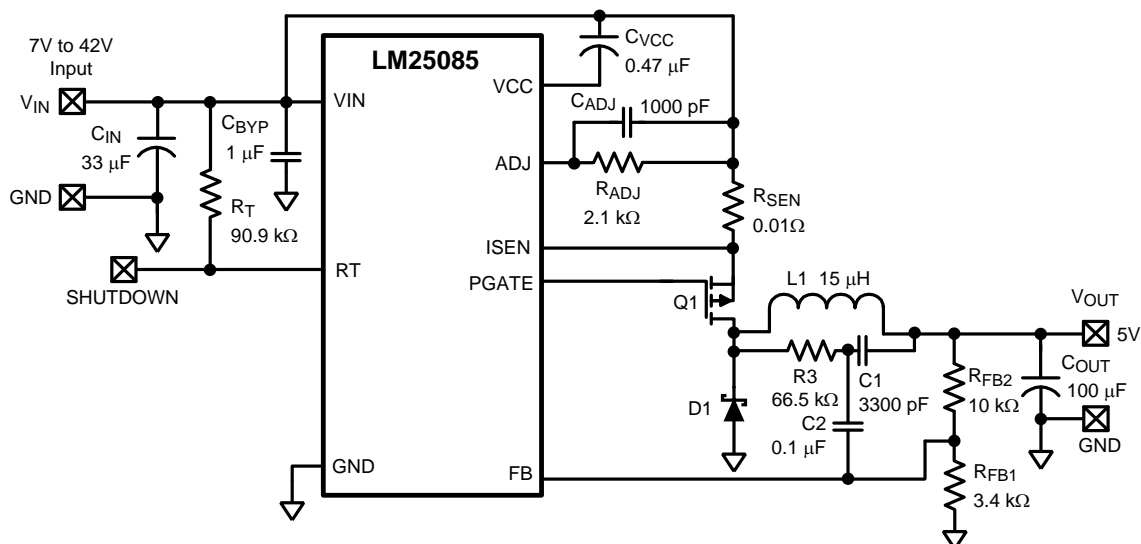
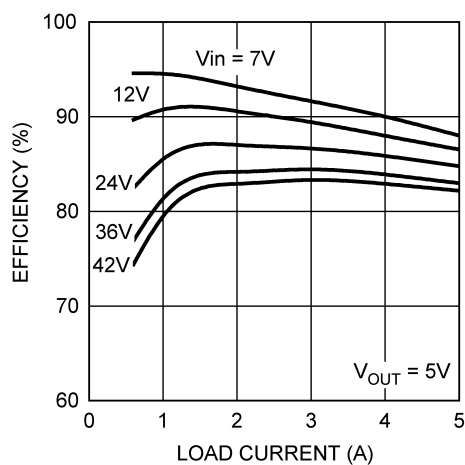
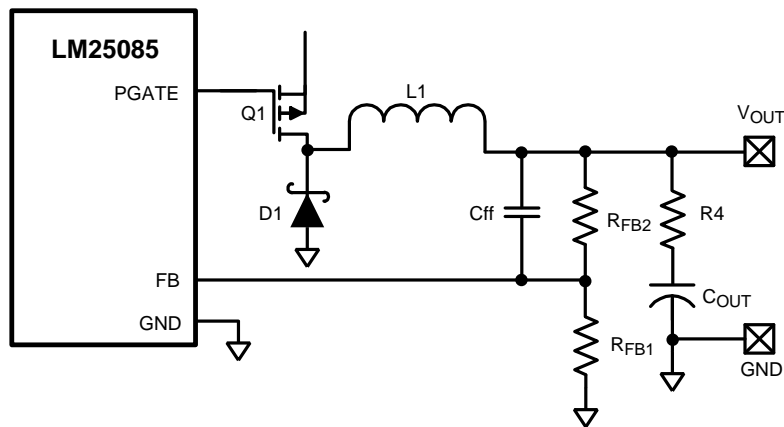
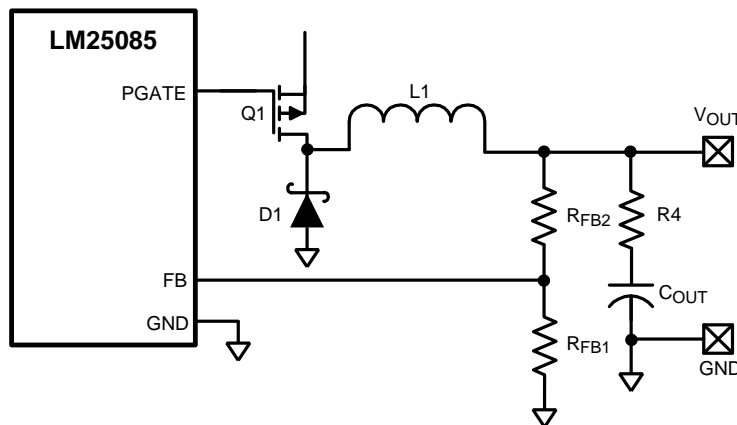

Figure 28. Example Circuit
Figure 29. Efficiency vs. Load Current and  $V_{IN}$  (Circuit of Figure 28)
Figure 33. Reduced Ripple Configuration
Figure 34. Lowest Cost Ripple Generating Configuration
The final circuit is shown in Figure 28, and its performance is presented in Figure 29 through Figure 32.
The minimum ripple configuration, using C1, C2 and R3, used in the example circuit, Figure 28, results in a low ripple amplitude at  $V_{OUT}$  determined mainly by the characteristics of the output capacitor and the ripple current in L1. This configuration allows multiple ceramic capacitors to be used for  $V_{OUT}$  if the output voltage is provided to several places on the PC board. However, if a slightly higher level of ripple at  $V_{OUT}$  is acceptable in the application, and distributed capacitance is not used, the ripple required for the FB comparator pin can be generated with fewer external components using the circuits shown below.
**Reduced ripple configuration:** In Figure 33, R3, C1 and C2 are removed (compared to Figure 28). A low value resistor (R4) is added in series with  $C_{OUT}$ , and a capacitor (Cff) is added across  $R_{FB2}$ . Ripple is generated at  $V_{OUT}$  by the inductor's ripple current flowing through R4, and that ripple voltage is passed to the FB pin via Cff. The ripple at  $V_{OUT}$  can be set as low as 25mVp-p since it is not attenuated by  $R_{FB2}$  and  $R_{FB1}$ . The minimum value for R4 is calculated from:
**Lowest cost configuration:** This configuration, shown in Figure 34, is the same as Figure 33 except Cff is removed. Since the ripple voltage at VOUT is attenuated by RFB2 and RFB1, the minimum ripple required at VOUT is equal to: